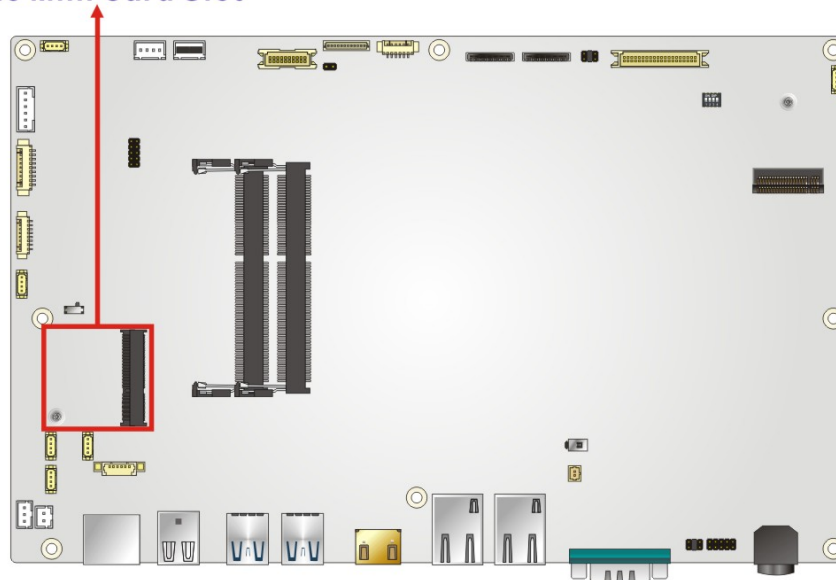

Figure 6-6: PCIe Mini Card Slot Location
Step 2: Locate the PCIe Mini card slot (**M_PCIE1**) on the motherboard. Remove the preinstalled retention screw on the screw pillar of the PCIe Mini slot (**Figure 6-6**).